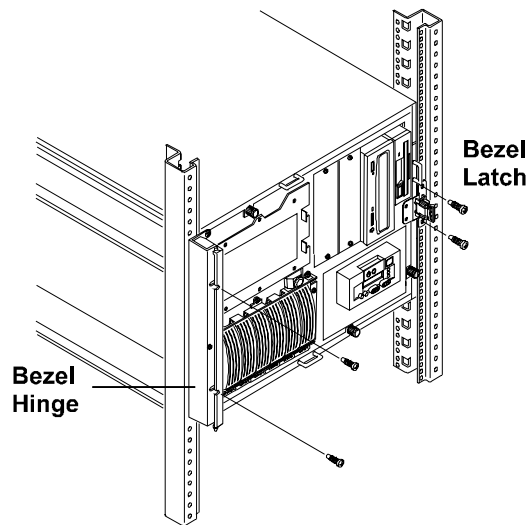

Figure 8-13. Securing the NetServer to the Rack
4. Install two screws through the bezel hinge into the rack nuts on the left column (see Figure 8-13).
5. Install two screws through the bezel latch into the rack nuts on the right column (see Figure 8-13).